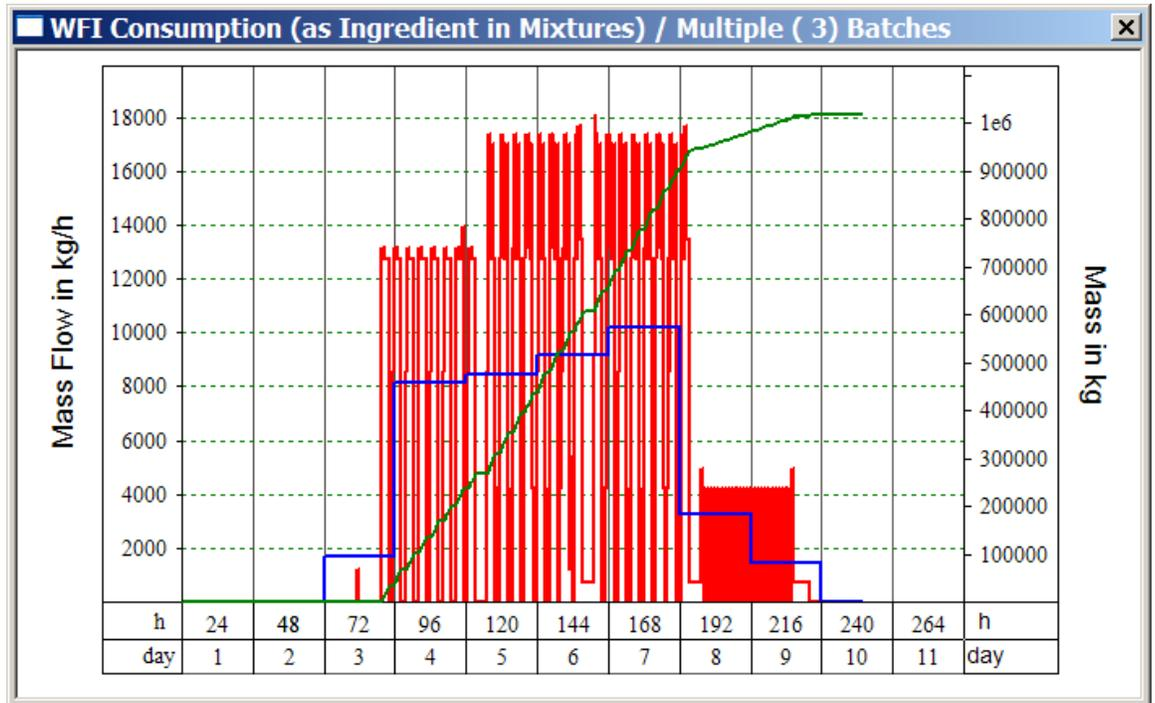

Figure 7.6: WFI demand for three consecutive batches.
**Resource>** Figure 7.6 displays the demand of WFI (water for injection) for three consecutive batches of a biotech process. The red lines (spikes) represent the instantaneous demand, the blue line represents the averaged demand (averaged over a period of a day), and the green line represents the cumulative demand (the cumulative demand corresponds to the y-axis on the right hand side). If you move the cursor close to the peak of a red line, SuperPro displays the operations that create that peak.